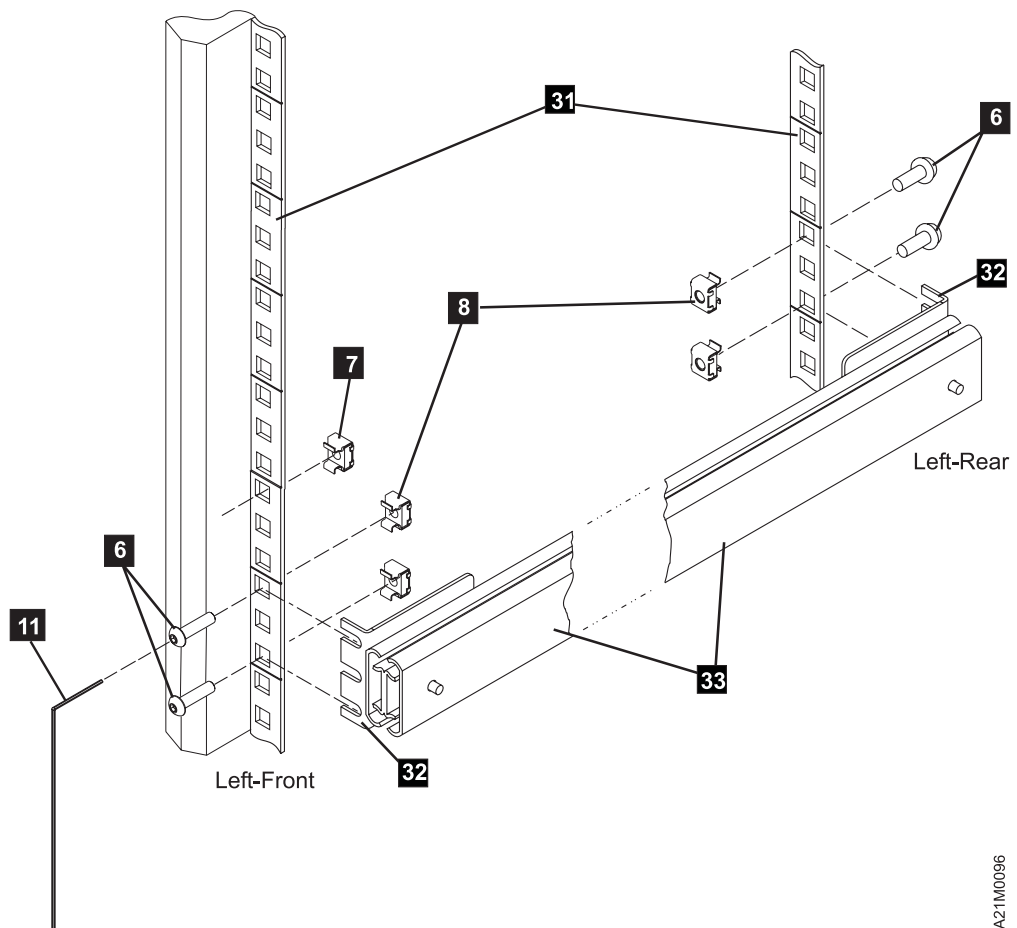
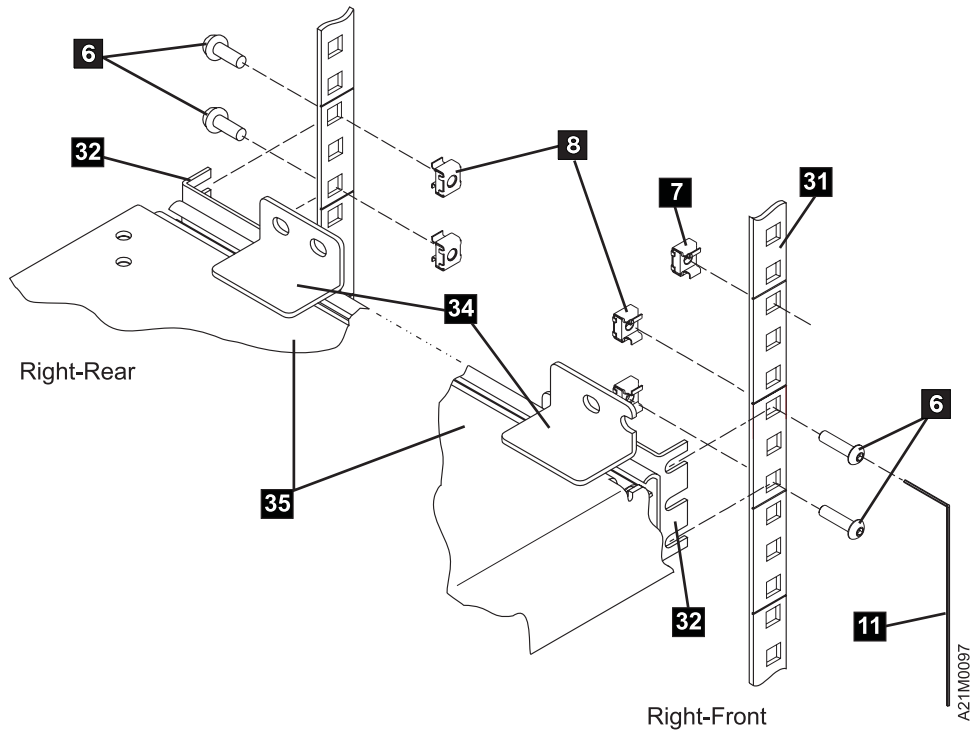

Figure 37. Attaching Left-Hand Slide and Bracket Assembly
Figure 38. Attaching Right-Hand Slide, Bracket, and Tray Assembly
- ___ Step 2. Determine in which rack location the 3570 will be installed; count six EIA units to accommodate for its height and mark the lower EIA units on the right and left sides in the front and rear of the rack. These EIA units identify the base upon which you will be developing your build. See Figure 37.
- ___ Step a. See Figure 37 on page 82 to install four M6 caged nuts **8** for the left side slide. Insert and leave the corresponding screws **6** loose.
- ___ Step b. See Figure 38 on page 84 to install four M6 caged nuts **8** for the right side slide. Insert and leave the corresponding screws **6** loose.
- ___ Step c. See Figure 37 on page 82 and Figure 38 on page 84 to insert one each M4 caged nuts **7** . These will be used to retain the 3570 from free sliding out of the rack.
- ___ Step 6. It is suggested that you have another person assist you in steps 6 through 8. Reference Figure 37 on page 82 and take the left-hand slide assembly **33** and, ensuring that the slide (the part without mounting brackets **32**) extends toward the front of the rack, install the assembly. It is necessary to lengthen the slide mounting brackets to correctly mount them to the outside of the rack EIA strip. To accomplish this, **do not** loosen the **front** mounting bracket screws. Adjustment must be made with the *rear* mounting bracket screws.
- ___ Step 8. See Figure 38 on page 84 to install the right-hand slide and tray assembly **35** .
- ___ Step a. Now, look back to Figure 38 on page 84 and securely tighten the front and rear right slide assembly screws **6**) onto the EIA strip.
- ___ Step 11. To secure (lock) the 3570 library into the rack, refer to Figure 37 on page 82 and Figure 38 on page 84. Open the front door of the 3570 library. On the right and left sides are offset brackets. (You may have to adjust the brackets to locate the bracket hole to the captured nut **7**.) Place two socket head screws **2** through the bracket and into the M4 caged nut **7**. Tighten the screws.